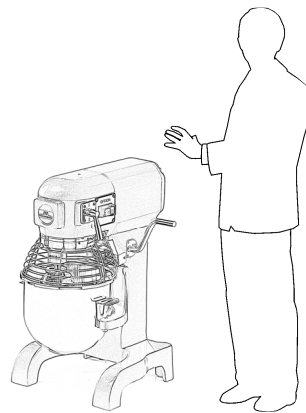

FIG. n.9 - Correct position
6. Assume a correct position in order to avoid accidents (see *FIG. n.9*): the body must be perpendicular to the work surface; the hands must not force the machine components or obstruct the movements of the same.